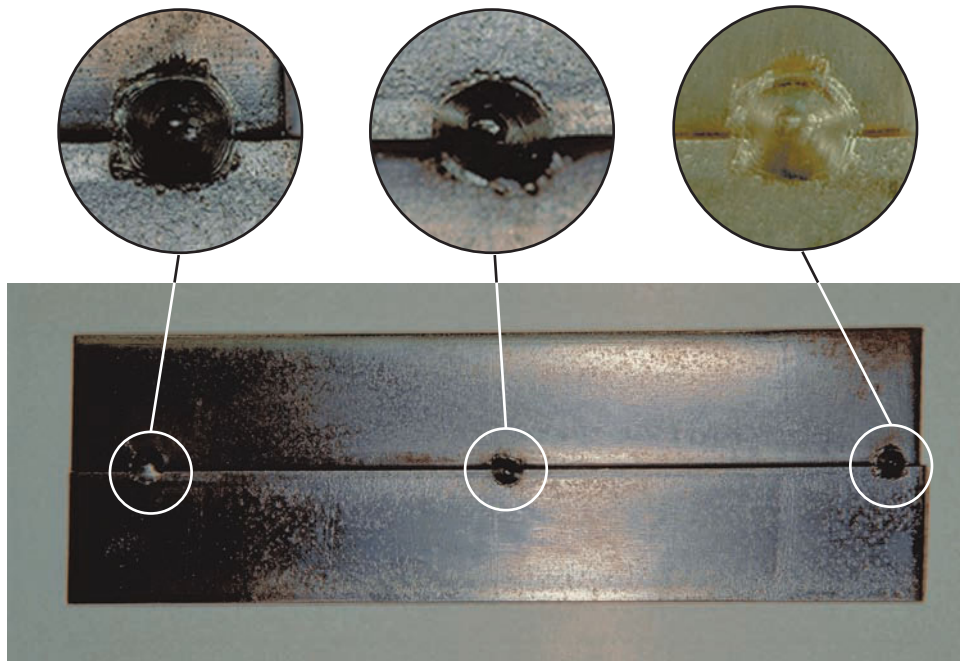

Figure 2.33 Tack welds
- Tack weld the sheets together and place them flat on the welding table, Figure 2.33.